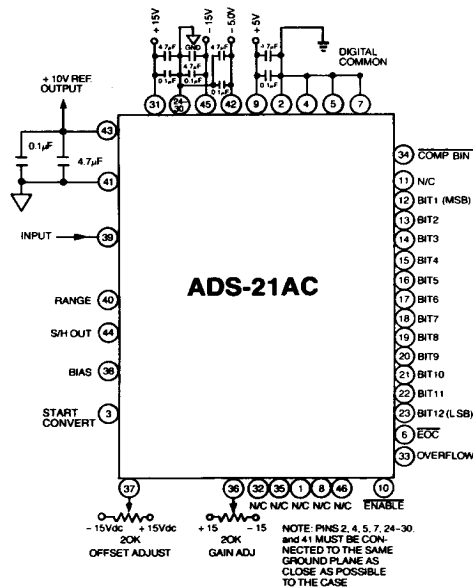

Figure 3. Connection Diagram
- Connect the converter per Figure 3 and Table 2 for the appropriate full-scale range (FSR). Apply a pulse of 100 nanoseconds minimum to the START CONVERT input (pin 3) at a rate of 500 KHz. This rate chosen to reduce flicker if LED's are used on the outputs for calibration purposes.